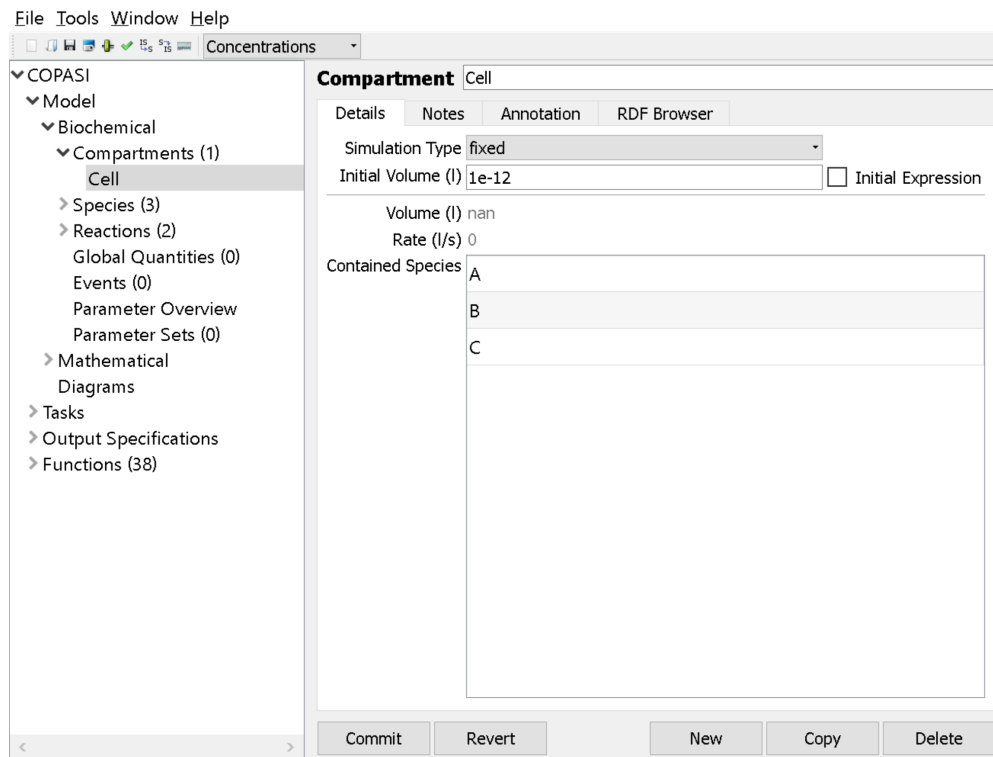

Figure 4: Compartment setup
Step 6. Compartments setup-Figure 4